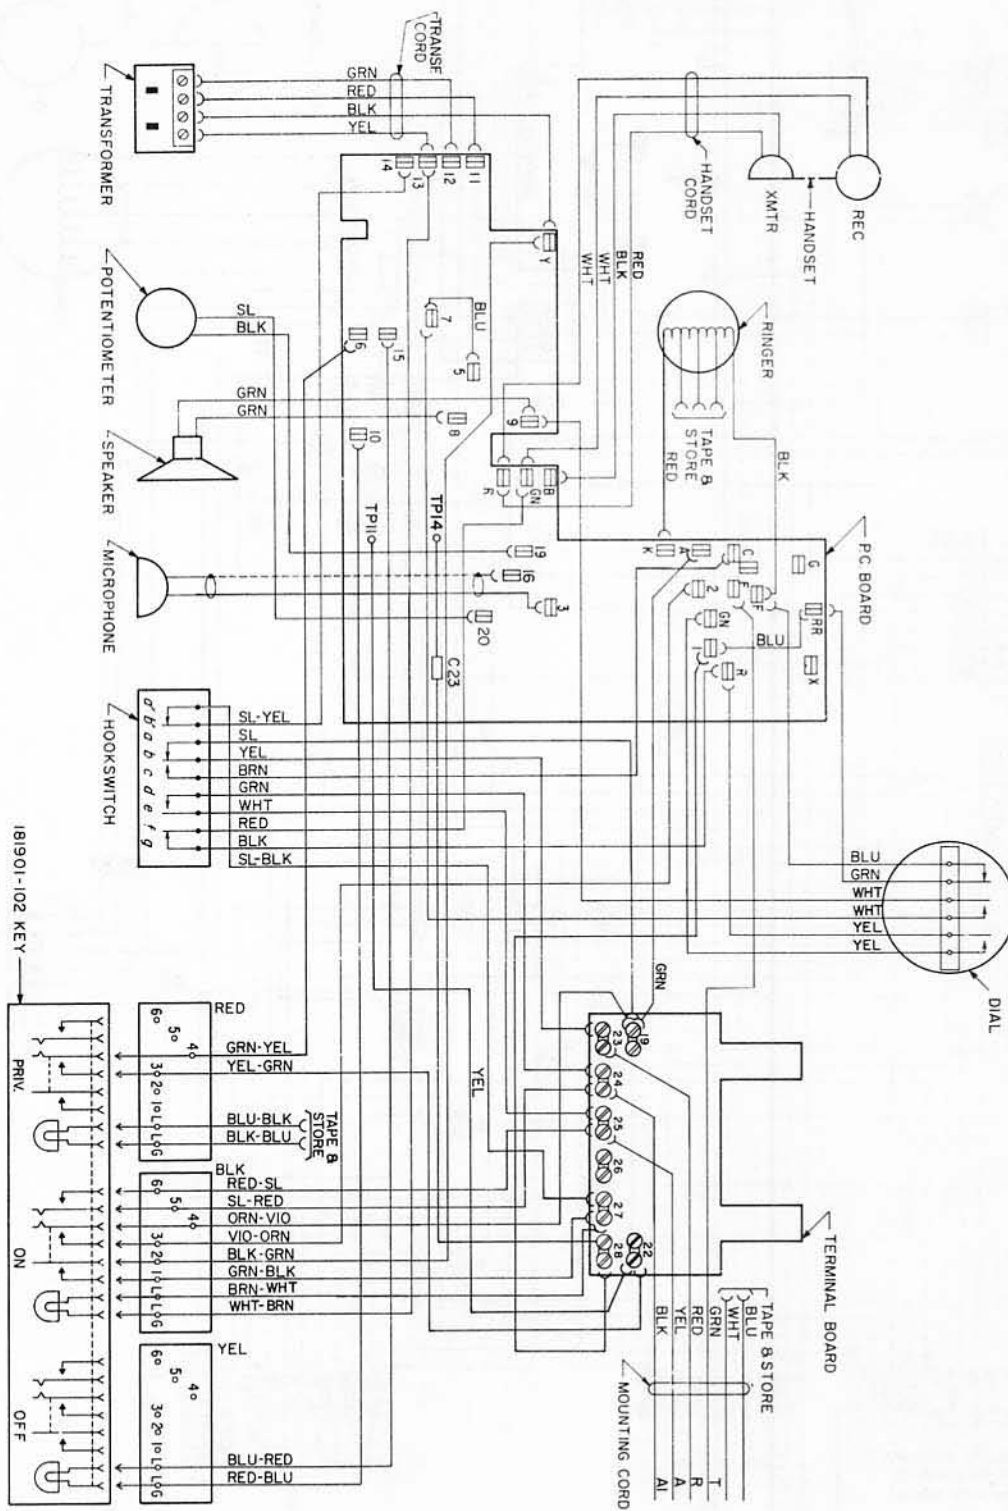

Fig. 5 - Wiring Diagram, K834
- 1. Remove nameplate (1) by inserting a release tool in the slot at the right hand end and prying the nameplate out.
- 2. Loosen the two housing screws (3) and lift off housing.
**CAUTION: REFER TO FIGURE 5 BEFORE REINSTALLING THE HOUSING**